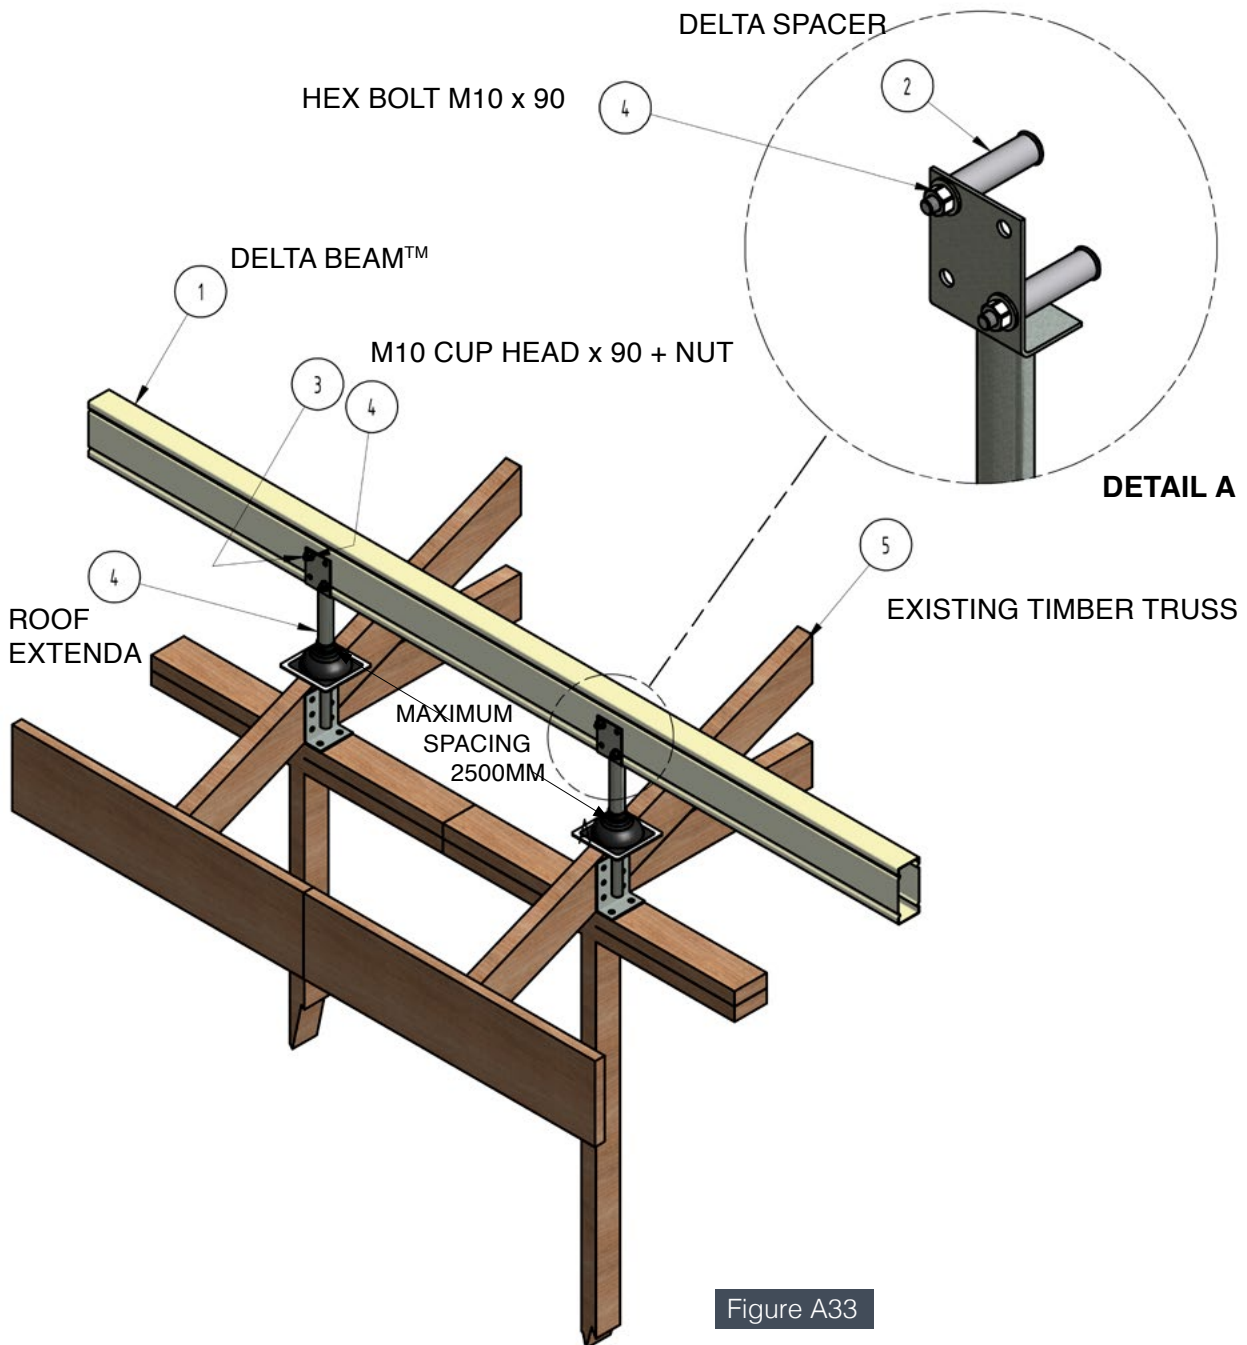

Figure A33
**Flyover with Extenda Bracket (see Figure A33)**